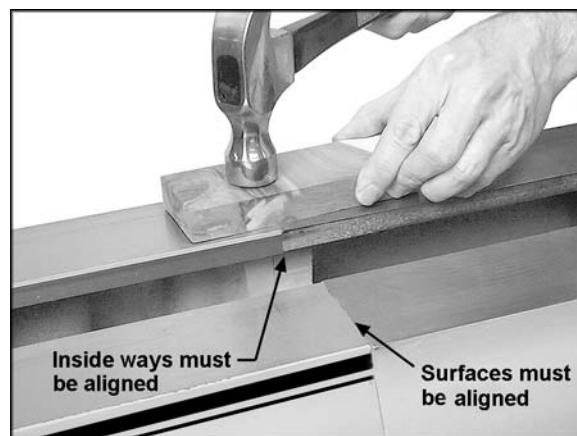

Figure 8
4. Use a dead blow mallet, or a hammer with a block of wood, to tap down the bed extension until it is flush with the Lathe bed. See Figure 8. **Never use a steel-faced hammer directly against the bed surfaces.** Tap the bed extension where needed until its surface is aligned with the Lathe bed, and the inside ways are aligned.